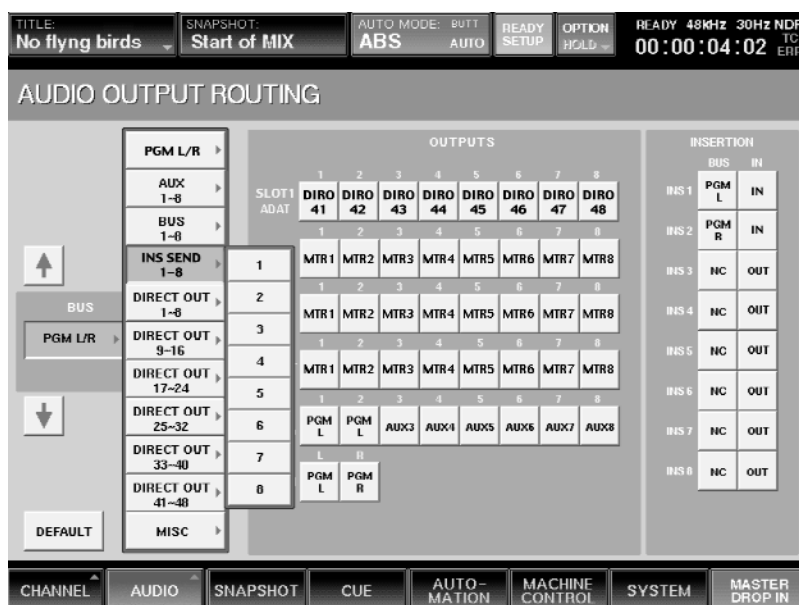

Figure 27
- 4 Now that the Inserts are set, the next step is to select the physical output connectors to use as the Insert sends. To set Aux 1 as the Insert 1 send, press INS SEND 1-8 in the Bus section twice so that the drop-down menu (1 - 8) appears. (See Figure 27)